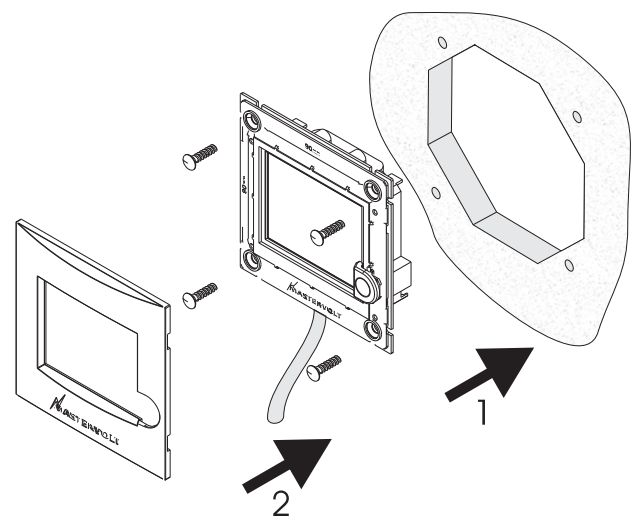

Figure 3
- o Flush mounting (see figure 3):
- Mount the *MasterView Easy* onto the panel (1) and then reattach the front (2).